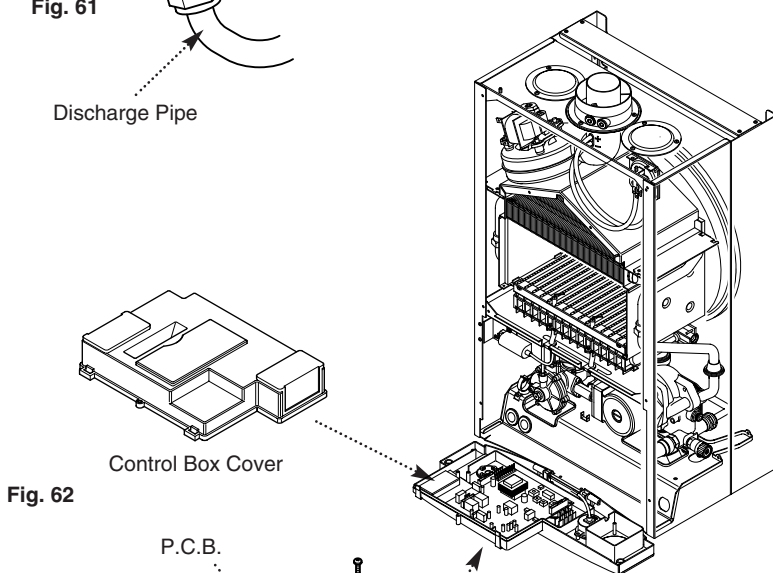

Fig. 62
12.19 P.C.B. (Fig. 62)
2. Remove the screws securing the control box cover and release the cover retaining barbs from their slots. Disengage the rear of the cover from the control box hinge pin (Fig. 62).